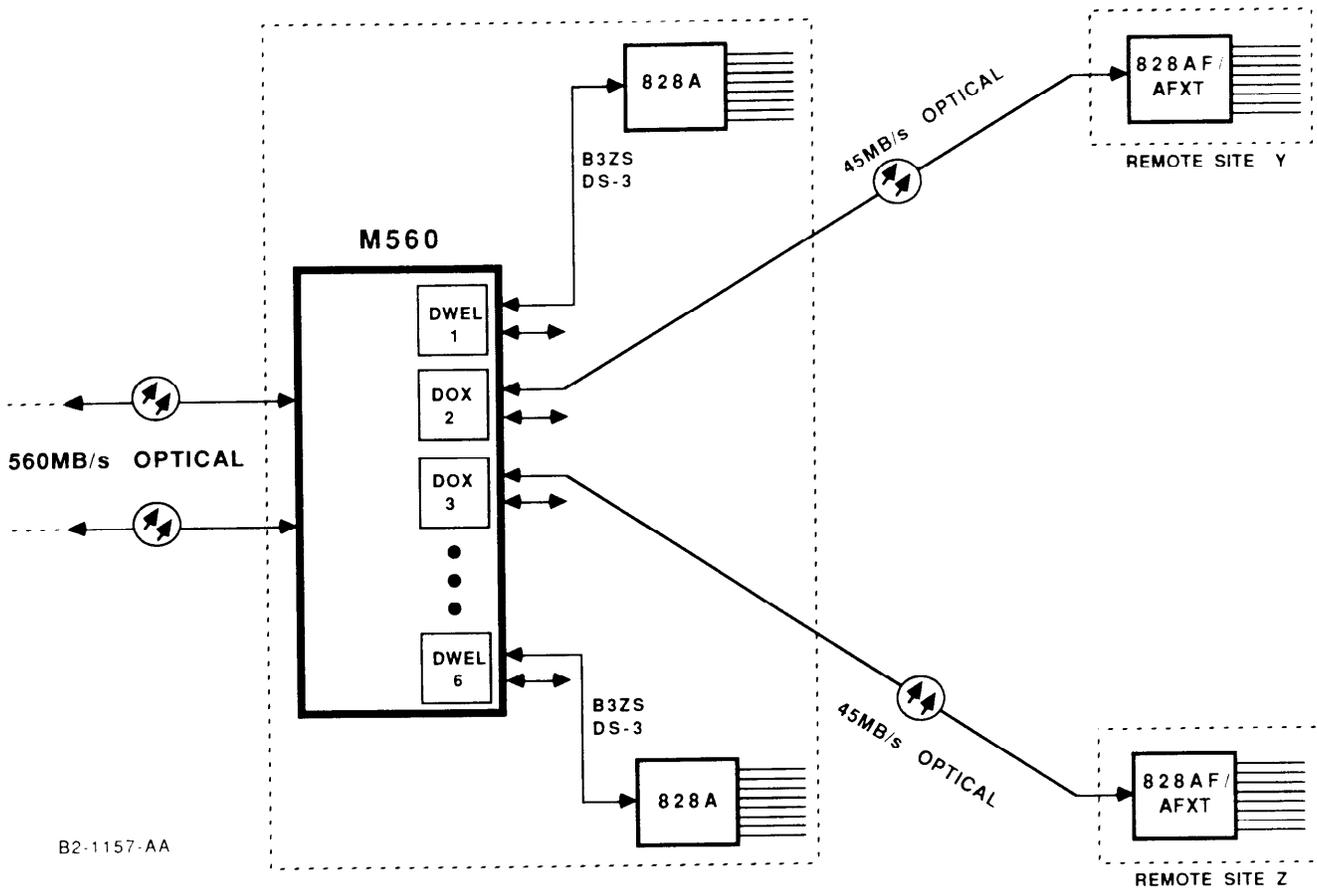

Figure 1-7. 828AF/FOX-3 DS-3 Optical Extension Application
5.03 Figure 1-7 illustrates the 828AF in a DS-3 optical extension application. Individual DS-3 channels demultiplexed from an incoming 560 Mb/s trunk can be optically coded as 45 Mb/s